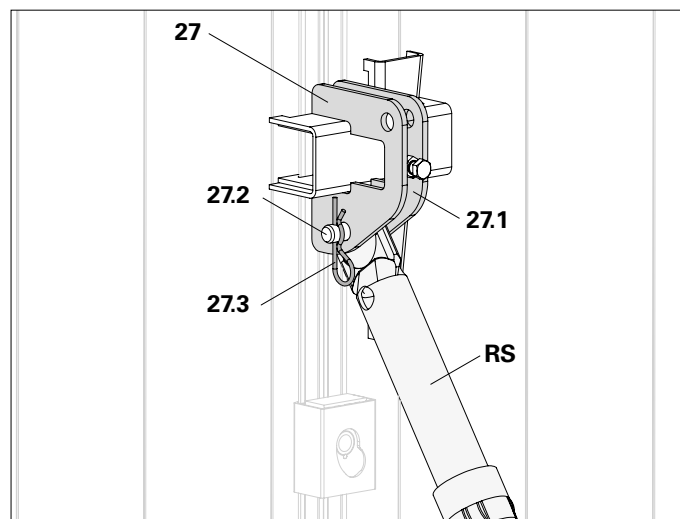

Fig. A6.08
Connect Push-Pull Prop (RS) and connection lugs (27.1) with bolts (27.2) and cotter pins (27.3). (Fig. A6.08)